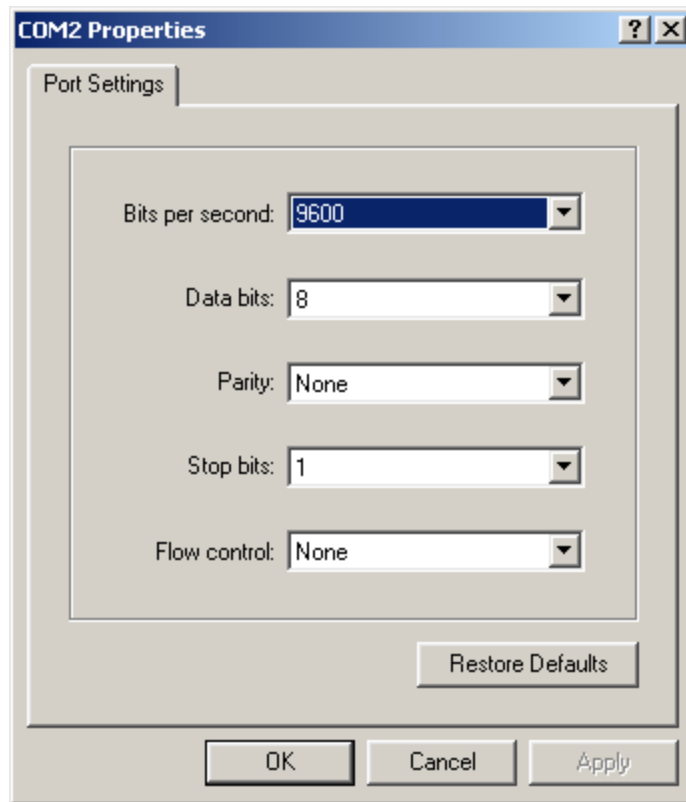

Figure 7 HyperTerminal Settings
3. Open HyperTerminal in Windows and create a session with the settings shown in Figure 7 (next page). Make sure that the COM port selected in HyperTerminal (probably COM1 or COM2) is the one you connected to the DE2.